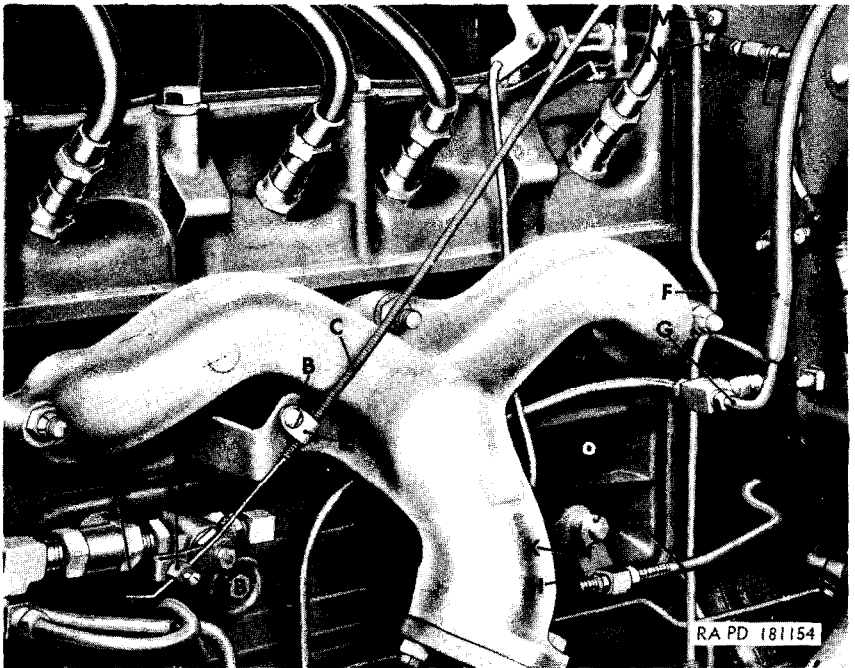

Figure 18. Disconnect points at left side of engine.
- (1) *Disconnect crankcase vent metering valve* (fig. 18). Straighten bent end of crankcase vent metering valve wire (A). Loosen bolts (B). Pull crankcase vent metering valve wire (A) and conduit (C) from crankcase vent metering valve swivel (D) and clamp (E).
- (2) *Disconnect tee-to-windshield wiper line* (fig. 18). Disconnect the tee-to-windshield wiper line (F) from vacuum pump line (G).
- (3) *Disconnect accelerator pedal* (fig. 18). Remove plain nut (H). Pull accelerator bellcrank link rod (J) from lower accelerator bellcrank (K) and into drivers compartment.
- (4) *Disconnect master brake cylinder vent line* (fig. 18). Disconnect master brake cylinder vent line (L). Remove lockwasher screw (M) and pull master brake cylinder vent line-to-dash clip (N) away from dash panel.